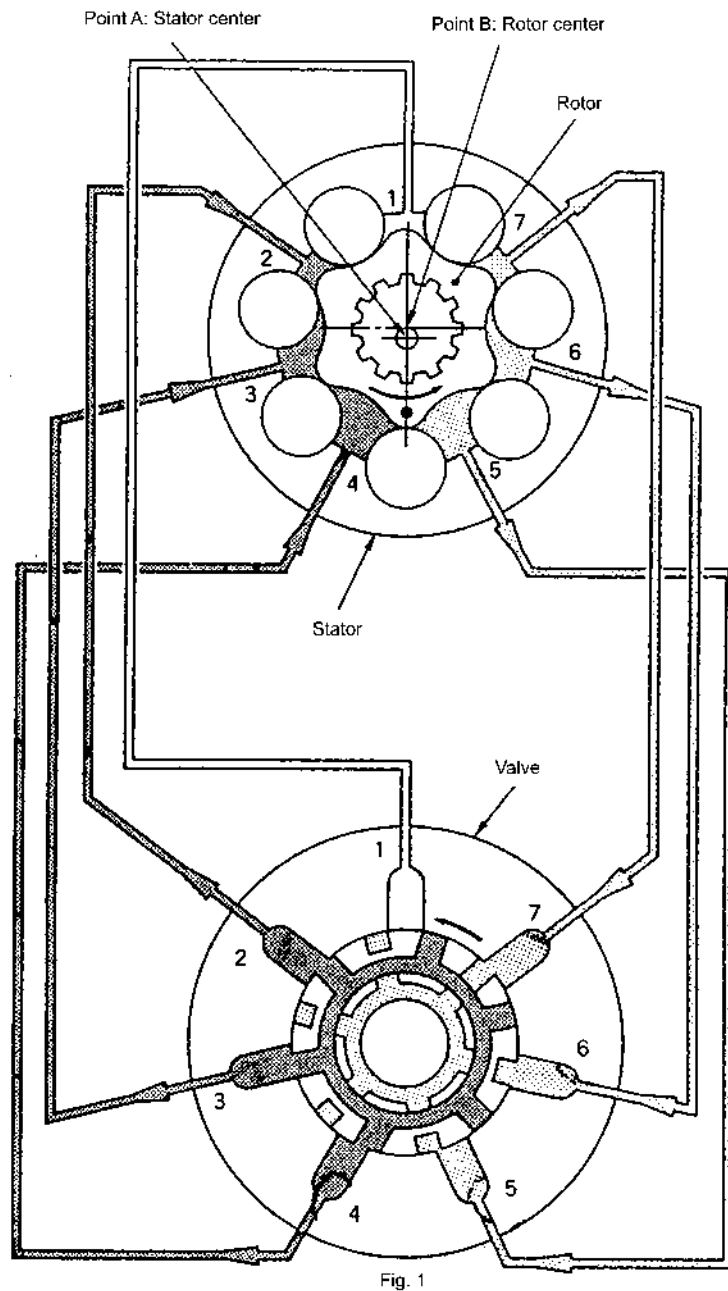
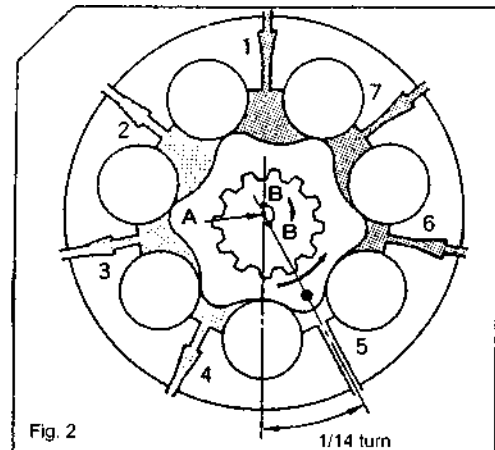
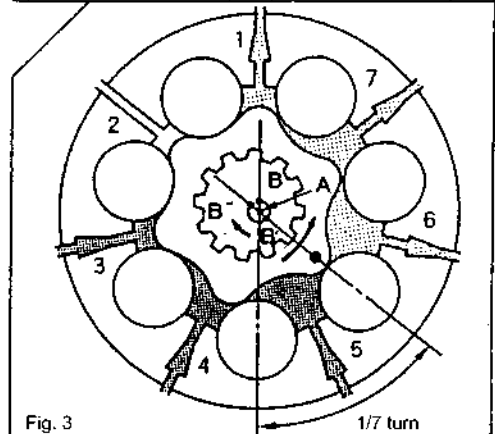

Fig. 1
Fig. 2
Fig. 3
The behavior of the pilot valve is discussed, referring to the hydraulic circuit diagram (Fig. 1) and behavior diagrams (Figs. 2, 3 and 4). Fig. 1 shows a typical application of the pilot valve.
- 1) With the lever at neutral (See Fig. 2.)
- 2) With the lever being tilted (See Fig. 3.)
When the high-pressure oil comes in the compartments 2, 3 and 4, as shown in Fig. 1, the rotor in internal contact with the stator starts turning in the direction of arrow. The valve starts turning together. The compartments receiving the high-pressure oil, however, move in the opposite direction. Fig. 2 shows that the rotor makes $1/14$ turn and that the compartments 1, 7 and 6 receive the high-pressure oil. The rotor's center point B moves around point A to point B'. Fig. 3 illustrates that point B' has shifted up to B''.